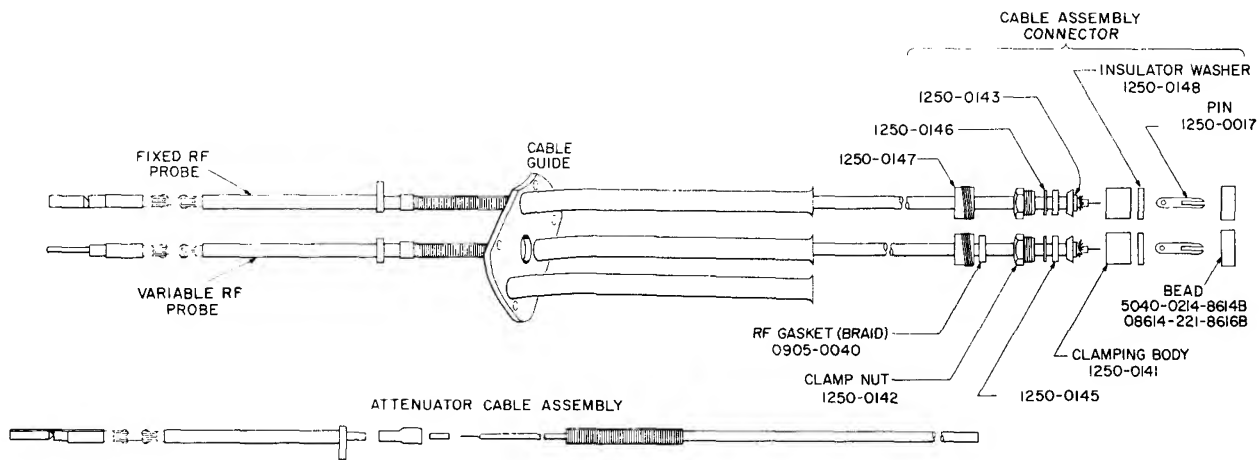

Figure 5-6. RF Probe Assembly
- d. Remove cable guide from klystron cavity casting and detach cable assembly connector from instrument (see Figures 5-6 and 5-8).
- The probe assembly cable must be inserted through the cable guide (see Figure 5-6).